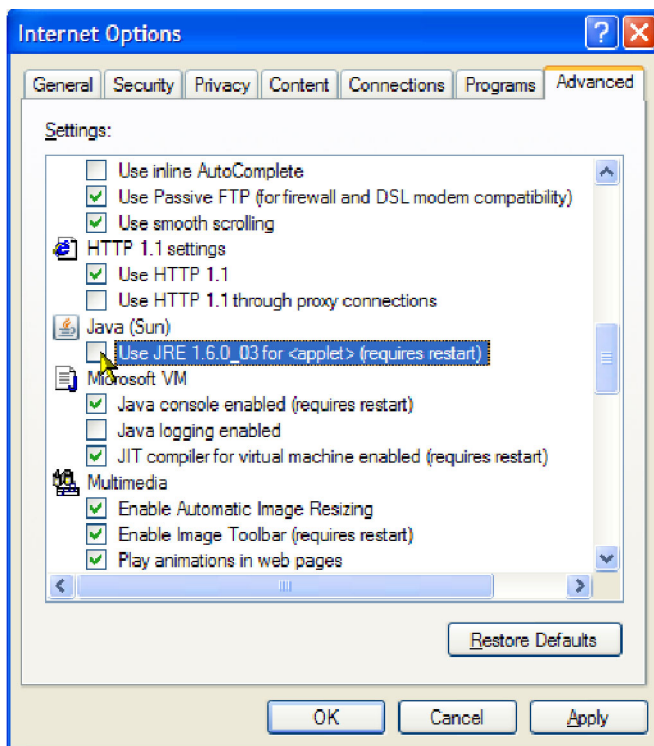

Figure 6: Internet Options dialog box
4. Locate the **Java (Sun)** node, and then clear the **Use JRE** check box. (See Figure 6.)